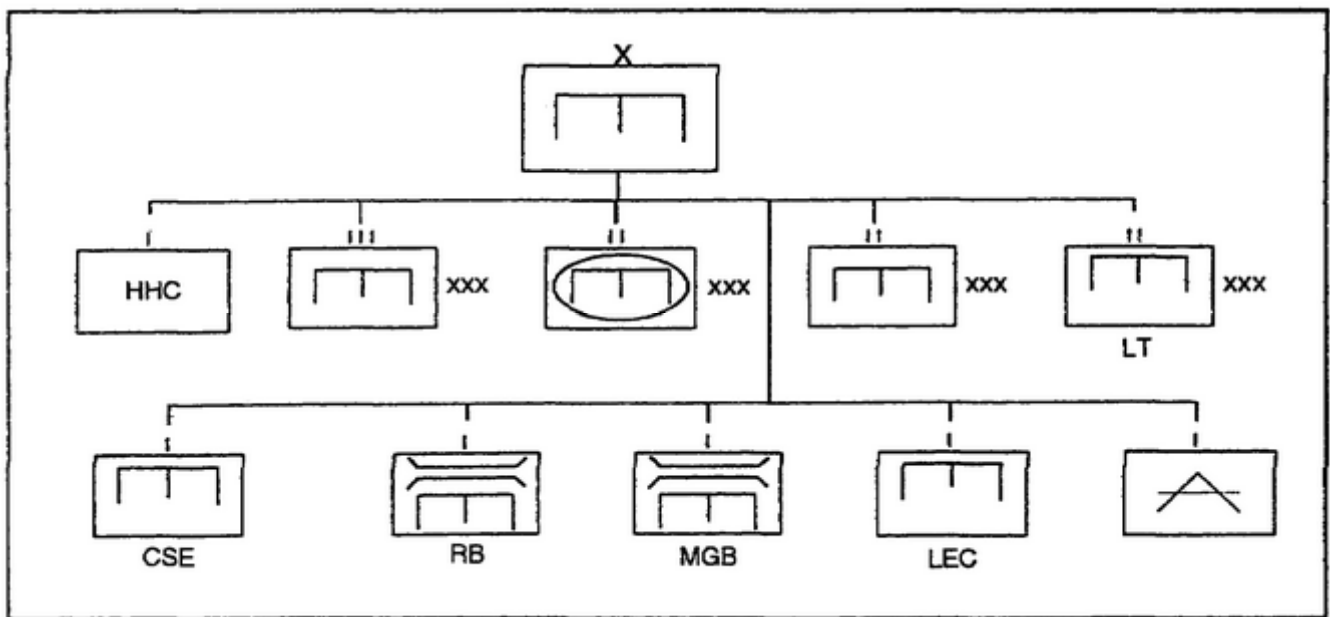

Figure 2-1. Corps engineer brigade.
- (1) The corps engineer brigade is a large organization that contains the C² structure necessary to sustain a fully developed corps area of operations. It also contains specialized engineer units that support combat operations. The brigade can task-organize subordinate engineer units to accomplish current and future missions. It focuses on future operations to ensure that task organizations develop early and give engineer units sufficient time to move.
- (2) Figure 2-1, page 2-6, shows a sample corps engineer brigade. It has three armored divisions, one light division, one separate armored brigade, and one armored cavalry regiment. The two combat engineer groups are flexible organizations that have no fixed number of battalions or separate companies. They are given GS engineer responsibility.
- (3) The corps combat engineer battalion (mechanized, wheeled, and light corps) has three engineer companies, nine combat support equipment (CSE) companies, and one light equipment company (LEC). Ribbon bridge (RB) and medium girder bridge (MGB) companies are located at the brigade, and AVLBs are located in the division area. The corps engineer controls bridging and task-organizes it according to mission and corps priorities.